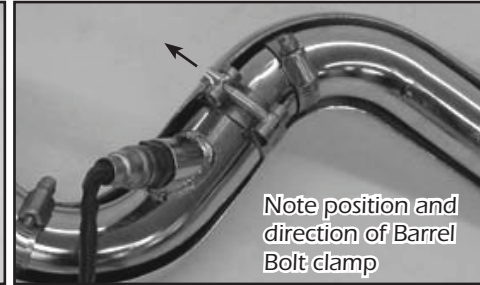

FIGURE 7
- Slide barrel bolt clamp (supplied) into position on pipe mounting post attached to bracket 422-P or 728-P, do not tighten at this time (Figure 7).